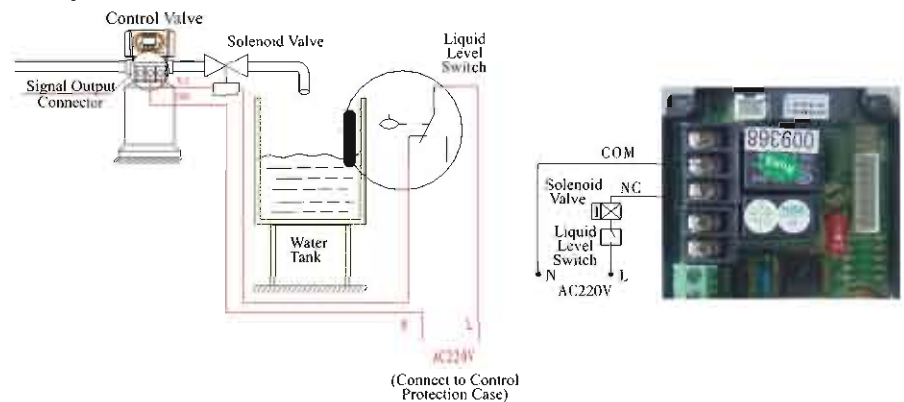

Figure3-1 Wring of Solenoid Valve on Outlet
①Solenoid Valve on Outlet Controls Water Level in Brine Tank.
**Instruction:** If system strictly require no hard water flow from outlet in regeneration cycle( Mainly for no hard water flow out when valve is switching or valve in backwash or brine drawing positions), a solenoid valve could be installed on outlet, the wiring refer to Figure 3-1.